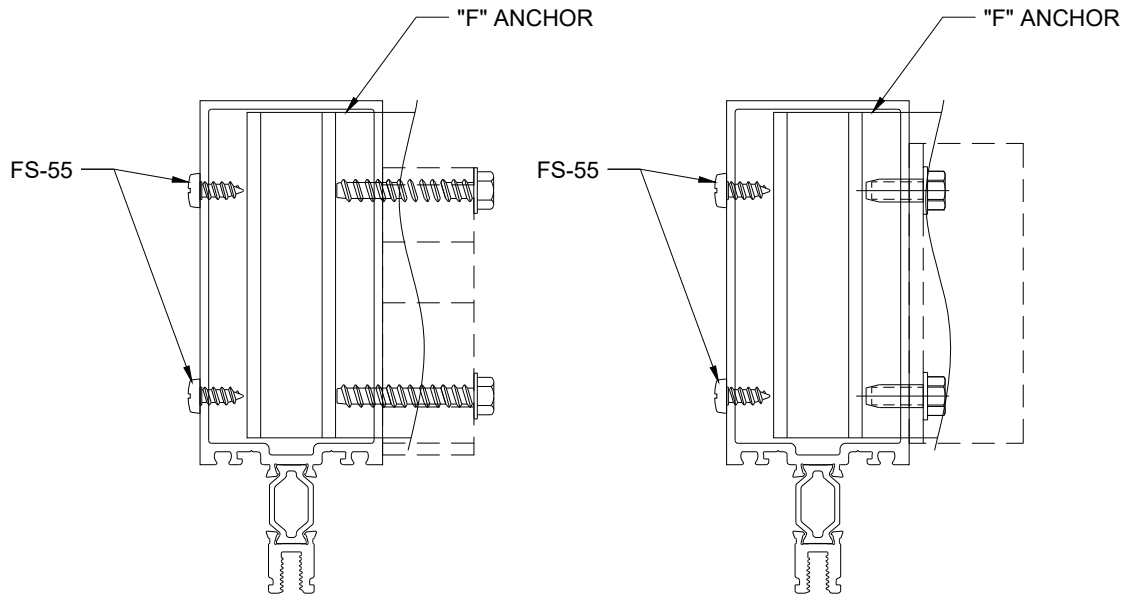

Figure 31: FS-55 at "F" Anchor Head and Sill
10.5 When using "F" anchors at the jamb condition add **FS-55** Fasteners to the Verticals at the Head and Sill, see *Figure 31*.